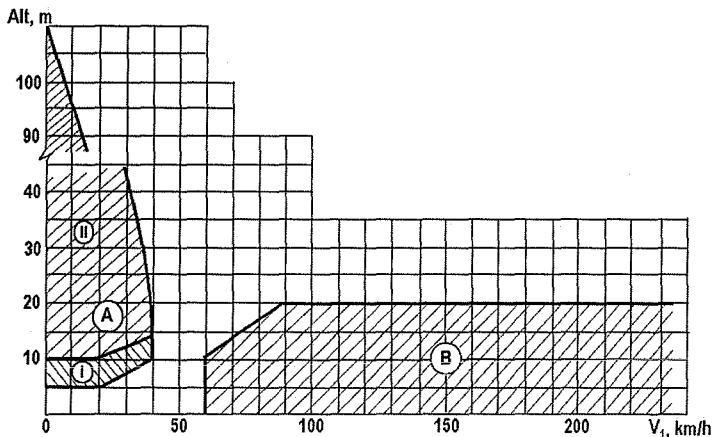

Fig. 4.1 Altitude-Speed Envelope
- (4) Abstain from hops near the ground at altitudes and speeds being within the cross-hatched altitude - speed envelope of the graph in Fig. 4.1 without urgent necessity, since complete safety of landing in case of failure of an engine (both engines) is not ensured for this envelope.
- (5) Perform low level flying over rough terrain (spurs and bluffs) at altitude not less than 20 m over the terrain profile and at not less than 60 km/h IAS.